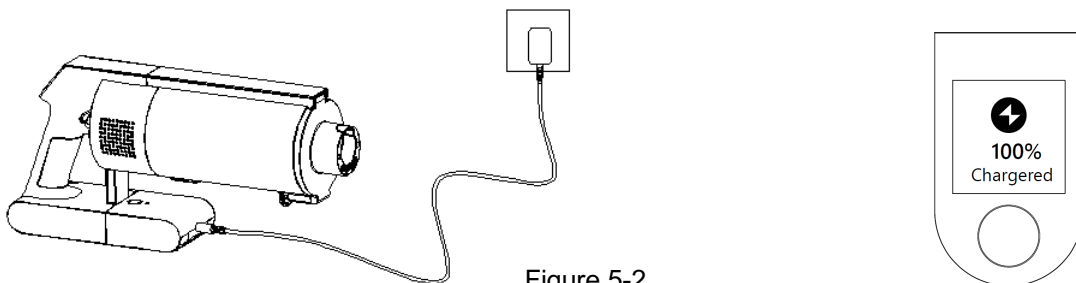

Figure 5-2
5.2 Charging mode 2: Plug the charger output end in the battery and connect input end to main socket. The charge indicator (NO.3) shows 100% power when fully charged. See Figure 5-2. Charging time is 4 to 6 hours.